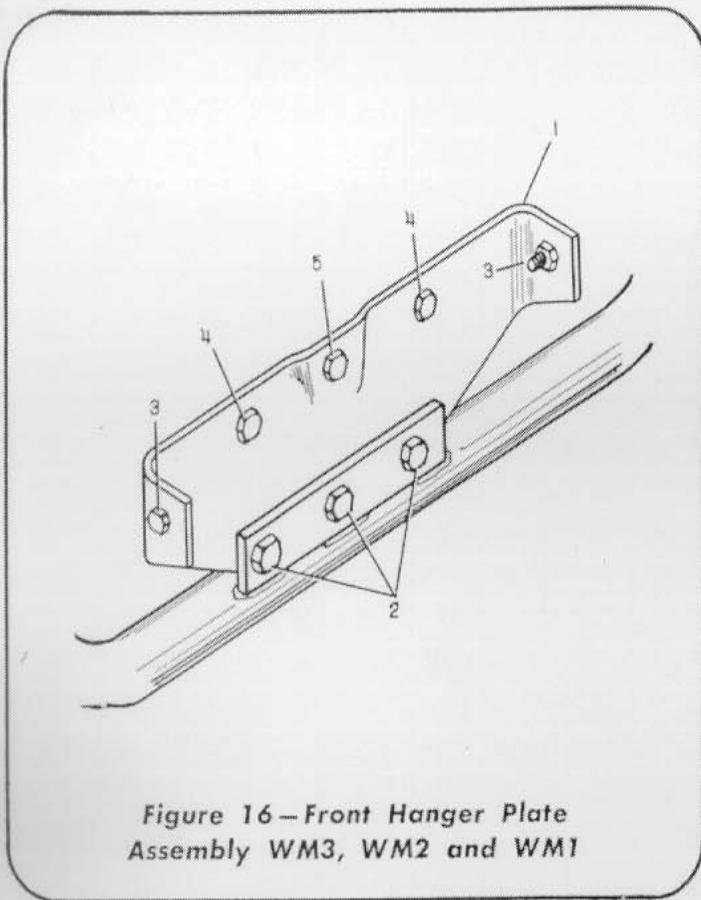

Figure 16—Front Hanger Plate Assembly WM3, WM2 and WM1
**Front Hanger Plate Assembly WM3, WM2, and WM1 (Fig. 16)**